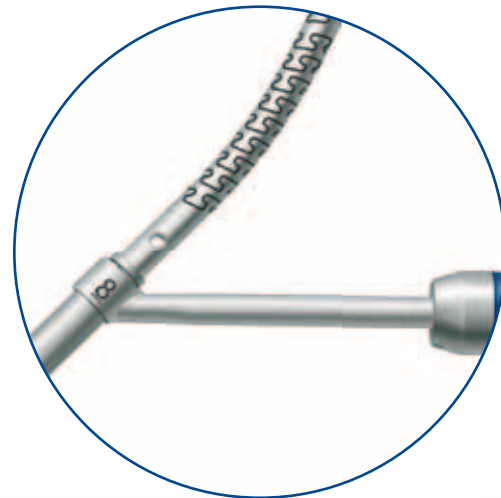

Figure 67
Select the appropriate Drill-Tap (DT) Guide based on the desired drilling depth. The DT Guides are available with fixed drilling depths from 6mm to 18mm in 2mm increments. Both the straight and flexible drill bits must be used in conjunction with the DT Guide to achieve a fixed drilling depth (Figure 67). When the flexible drill bit is used, the DT Guide will help stabilize the flexible shaft and direct the drill bit in the proper position. Using the DT Guide to align the drill hole in the Occipital Midline Plate, insert the flexible drill bit through the DT Guide, and drill to the desired depth (Figure 68). Drilling must be done through the Occipital Midline Plate to ensure proper drilling depth.